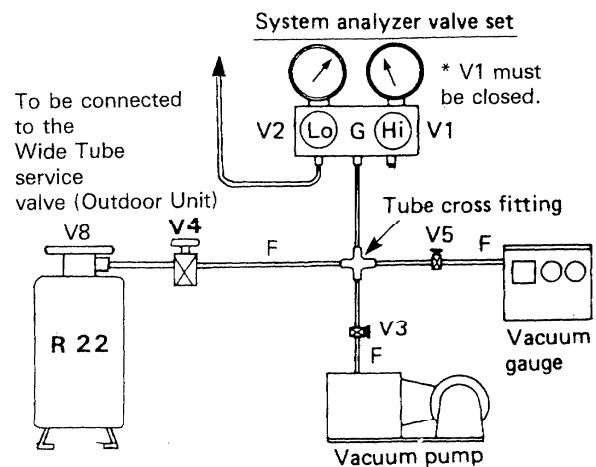

Fig. 22
- 1) Prepare the system analyzer valve set and connect charging hoses as in Fig. 22. Be sure to close all valves before connection.